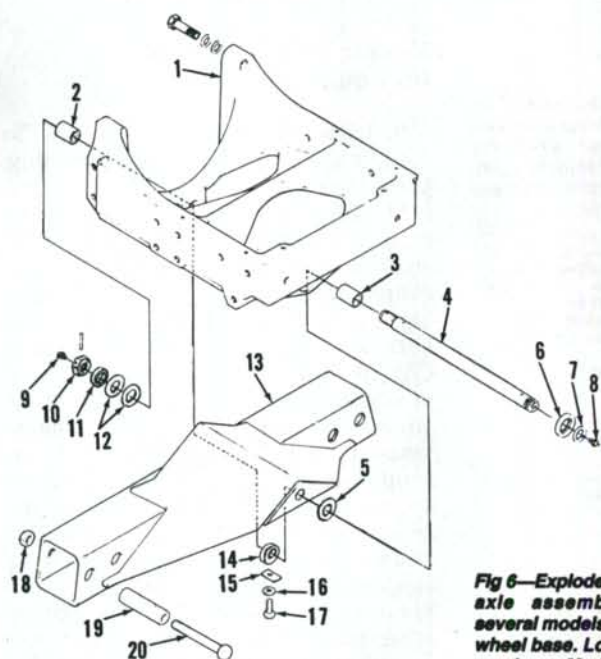

Fig. 4—Exploded view of front axle assembly used on Model 2090 and 2290 tractors (S/N prior to 9905953).
Refer to Fig. 4, unpin and remove nut (10) from rear of pivot pin (4). Remove collar (11) and thrust washer (12). Remove bolt (17) from lock collar (14). Remove grease fitting (8) and install a slide hammer to pivot pin (4). Support axle main member with a rolling floor jack, then pull pivot pin out front of axle assembly. Catch thrust washers (12), lock collar (14) and shim washer (5) as pin (4) is withdrawn. Lower axle main member enough to clear front support and roll forward away from tractor.
Pin bushings (2 and 3—Fig. 4) can be removed using a suitable drift punch. Drive new bushings into front axle support until flush with axle support casting. Bushings are presized and should require no reaming if carefully installed.
ring (7—Fig. 4) and washer (6) onto pivot pin (4). Insert threaded end of pivot pin into axle support front bushing. Place shim thrust washer (5) between axle main member and axle support and slide pivot pin through washer and into axle main member front block. Install lock collar onto pin behind front block of axle member. Install bolt (17), washer (16) and lock tab (15) into lock collar (14) but do not tighten bolt at this time. Push pivot pin through rear of axle member and into rear of axle support.
(68 N·m) torque and bend lock tab (15—Fig. 4) over bolt head. Install collar (11) and pivot pin nut (10) on rear of pin and tighten nut against collar (11). Back nut off 1/4 turn or until cotter pin hole aligns and install cotter pin. Install grease fittings (8 and 9) and lubricate with No. 2 lithium grease.
8. To remove front support (1—Figs. 4, 6 or 7), first disconnect headlight wiring then remove grille, hood and side panels. Remove radiator as outlined in paragraph 90. Remove front axle main member as outlined in paragraphs 6 or 7. Attach suitable hoist to front support, then unbolt and remove.